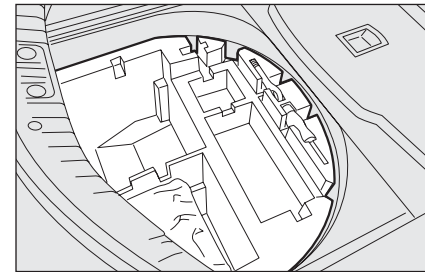

fig. 4
- for versions fitted with “quick tyre repair kit Fix&Go” take the tool container **fig. 4** out of the boot;